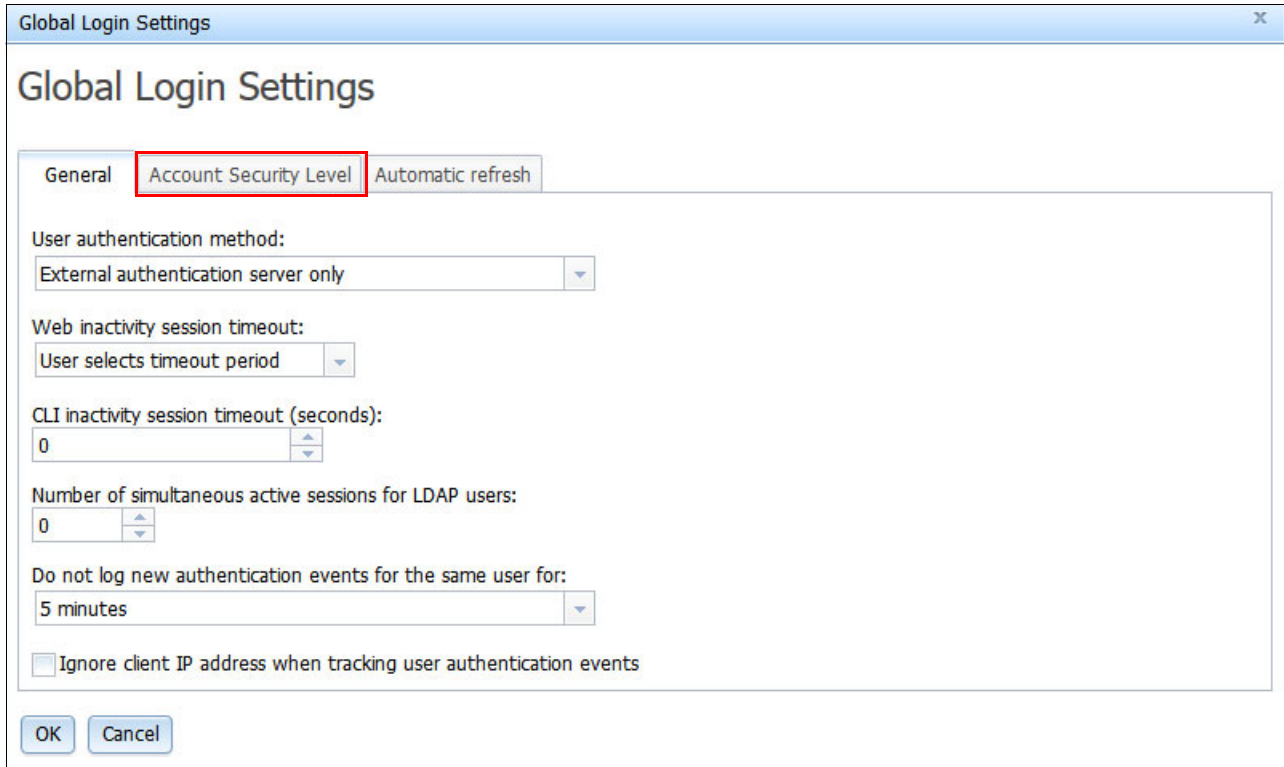

Figure 4-33 Global Login Settings window
- Click the **Account Security Level** tab in the Global Login Settings window, as shown in Figure 4-33.